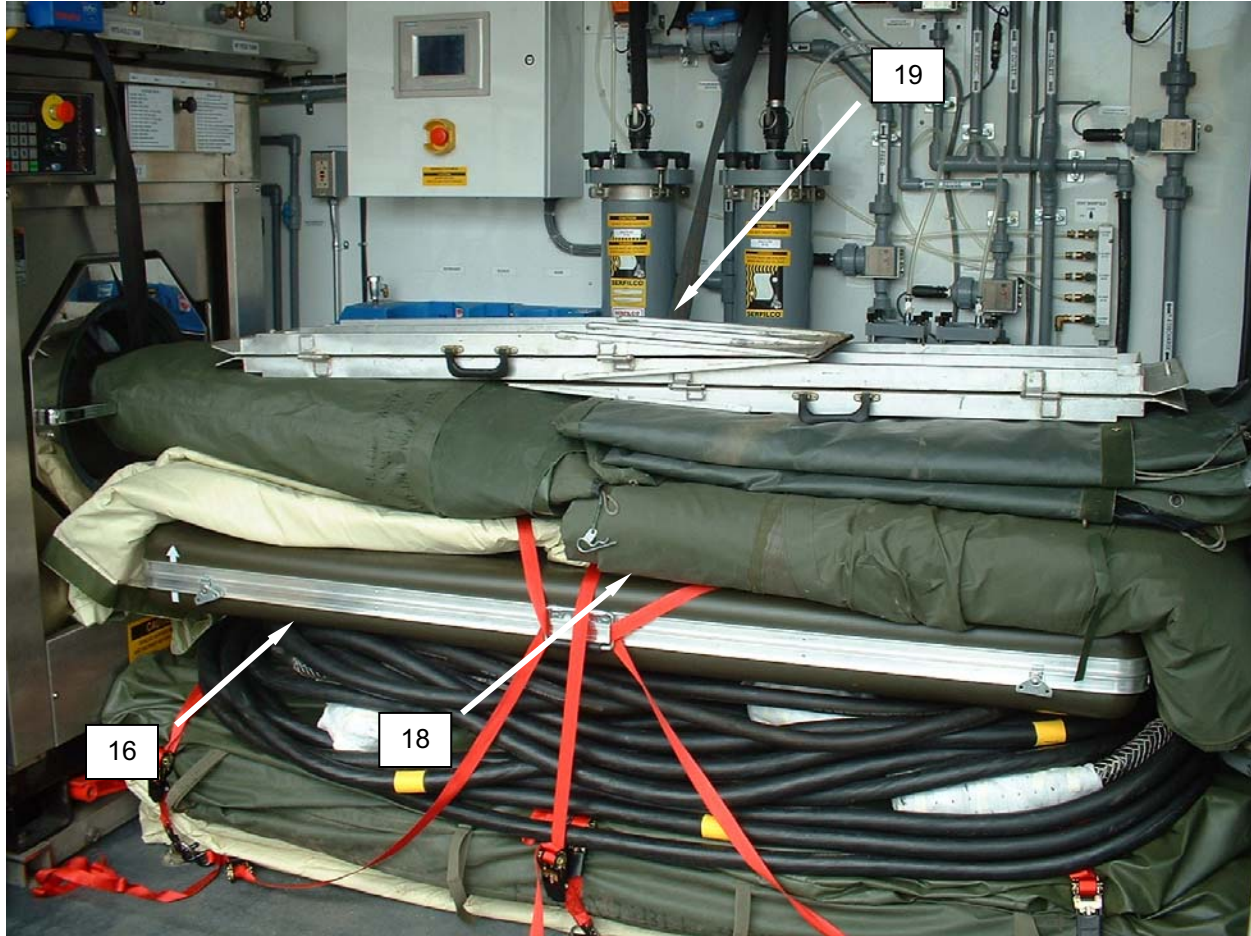

Figure 15. Placing the Ramps for Minimum Packout.
20. Place half the outer TEMPER fabric components (**Figure 15, Item 18**) on top of light case (**Figure 15, Item 16**). Ensure the fabric sections fold down against the dryer door.
21. Place ramps (**Figure 15, Item 19**) on top of outer fabric components (**Figure 15, Item 18**).